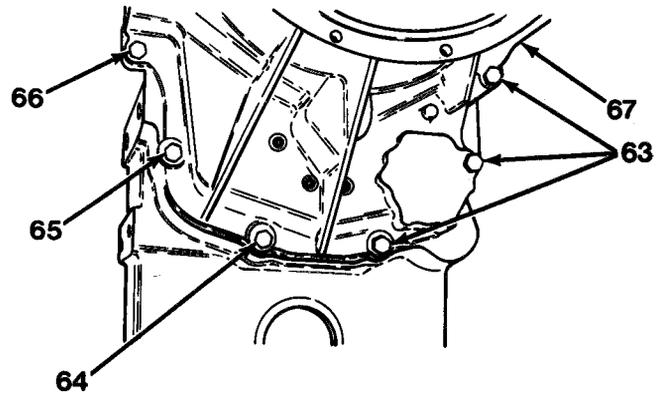

Figure 11-16
11. Install front cover (67) to transmission main case, by carefully using hoist and sling with eye bolts.
12. Install capscrews (66), (65), and (64) and three capscrews (63) to secure front cover (67, Figure 11-16) to transmission main case.